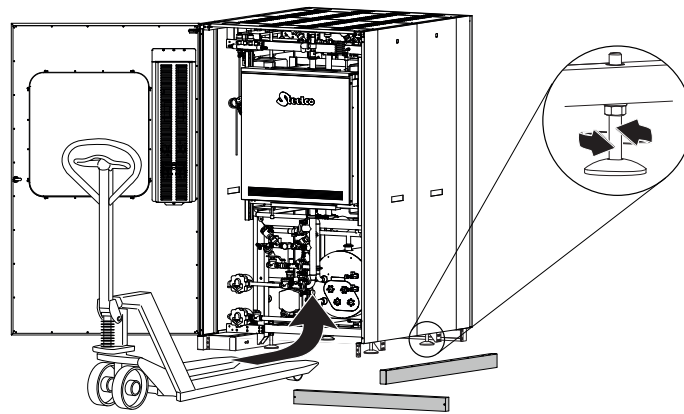

Figure 1 – Appliance positioning
- ▶ Place the autoclave on the work surface and level and shim it properly (Figure 1).